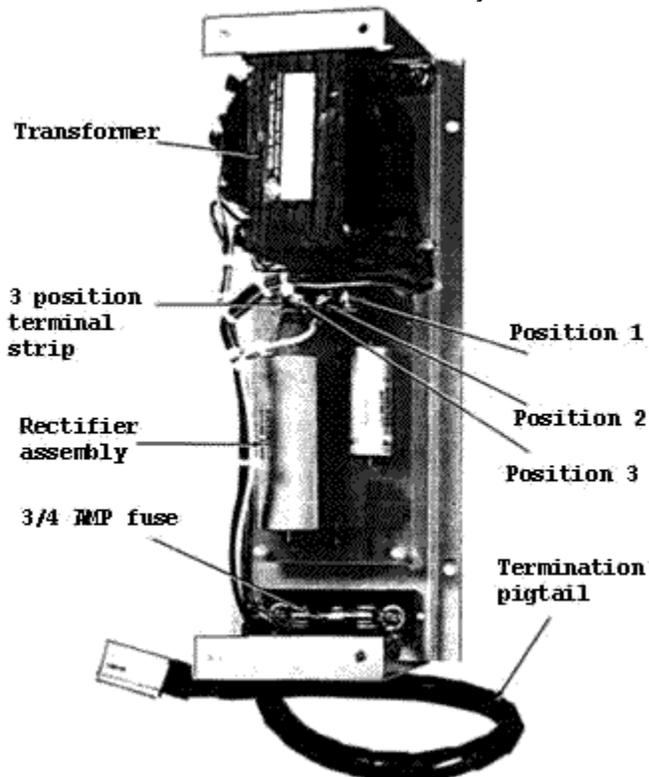

Figure 2
2. If 230 VAC is present at all three pairs and the air dryer is still inoperative, turn the power off. Locate the four (4) screws which secure the gray safety cover on the 60 VDC power supply. Remove the $\frac{3}{4}$ AMP fuse (Fig. 2), be certain that it is not blown. If the fuse is OK, return it to its holder. If blown, replace and check air dryer operation.
Locate the three position terminal strip (Fig. 2) on the DC power supply. Set the voltmeter to measure a small AC voltage approximately 18-22 VAC. Place test lead across positions 1 & 3 of the terminal strip (a green and purple wire). If 18 VAC is present and the air dryer is still inoperative, set voltmeter to measure DC voltage of approximately 60 VDC. Place test lead across positions 2 & 3 of terminal strip (a green and white wire). If voltmeter indicator deflects to the left, change positions of test leads because the rectifier is polarity sensitive. If the 60 VDC is not present, the rectifier has a faulty component and the 60 VDC power supply should be replaced or an emergency wiring modification to the modules may be necessary.